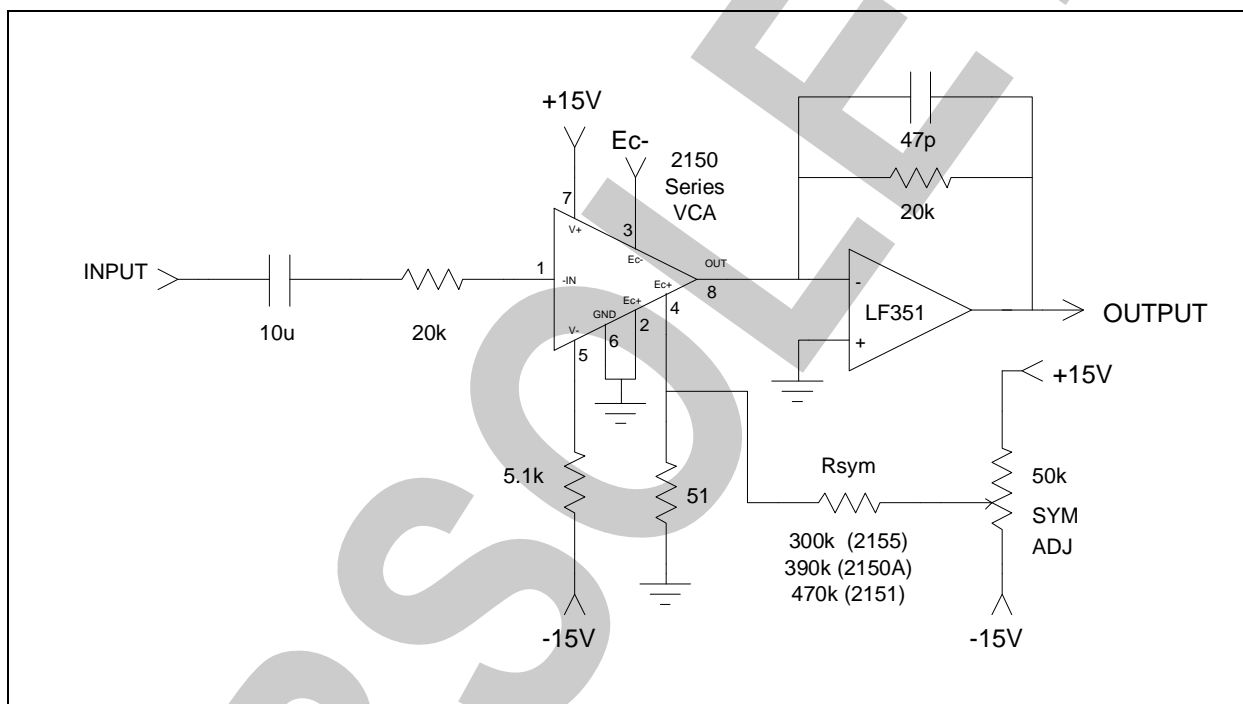
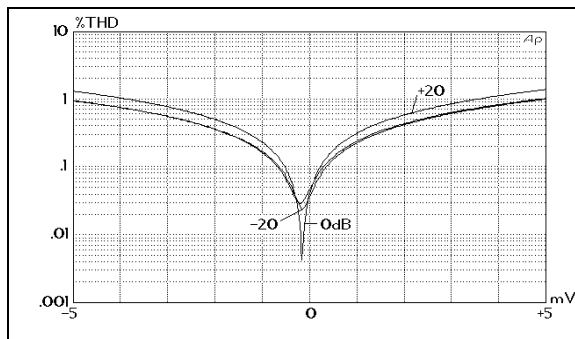
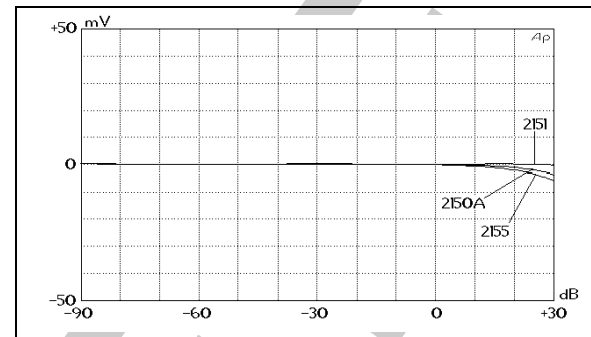

Figure 3. Typical Application Circuit
Figure 8. Typical THD Versus Symmetry Voltage
Figure 9. DC Offset Vs. Gain, After Symmetry Adjustment
2. Unless otherwise noted, TA = 25°C, VCC = +15V, VEE = -15V. Test circuit is as shown in Figure 3. SYMADJ is adjusted for minimum THD @ Vin = 1 V, 1 kHz, 0 dB gain.
The monolithic construction of the devices assures relatively good matching between the paired transistors, but even small  $V_{BE}$  mismatches can cause unacceptable asymmetries in the output. For this reason, the bases of Q1 and Q4 are brought out separately to pin 2 and pin 4, respectively. This allows a small static voltage differential to be applied to the two bases. The applied voltage must be set to equal the sum of the  $V_{BE}$  mismatches around the core (*which varies from sample to sample*). Figure 3 (Page 3) includes a typical circuit to apply this symmetry voltage.  $R_{SYM}$  controls primarily even-order harmonic distortion, and is usually adjusted for minimum THD at the output. Figure 8 plots THD vs. the voltage between pins 2 and 4 (the two  $E_{C+}$  ports) for various gain settings of a typical part.
vent such dc terms, ac input coupling is strongly recommended. A plot of typical output offset voltage versus gain for the circuit of Figure 3 is shown in Figure 9. (The LF351's offset was adjusted to 0 V for this plot.)
The input pin (pin 1) is a virtual ground with negative feedback provided internally (see Figure 6, Page 4). The input resistor (shown as 20 k $\Omega$  in Figure 3, Page 3) should be scaled to convert the available ac input voltage to a current within the linear range of the device. (Peak input currents should be kept under 1 mA for best distortion performance.) An additional consideration is stability: the internal op amp is intended for operation with source impedances of less than 30 k $\Omega$  at high frequencies. For most audio applications, this will present no problem.
The output pin (pin 8) is intended to be connected to a virtual ground node, so that current flowing in it may be converted to a voltage (see Figures 3, 14, & 15). Choose the external op amp for good audio performance. The feedback resistor should be chosen based on the desired current-to-voltage conversion constant. Since the input resistor determines the voltage-to-current conversion at the input, the familiar ratio of  $R_f/R_i$  for an inverting op amp will determine the overall voltage gain when the VCA IC is set for 0 dB current gain. Since the VCA performs best at settings near unity gain, use the input and feedback resistors to provide design-center gain or loss, if necessary.
symmetry voltage (<math>\pm 2.5\text{ mV}</math>) to correct for  $V_{BE}$  mismatches within the VCA IC. For this purpose, the 2150 series devices were designed for optimum performance with an impedance of approximately  $50\Omega$  at pin 4. A trim pot is used to adjust the voltage between pin 4 and pin 2 as shown in Figure 3, Page 3. For supply voltages other than shown, scale  $R_{SYM}$  to provide the required adjustment range.